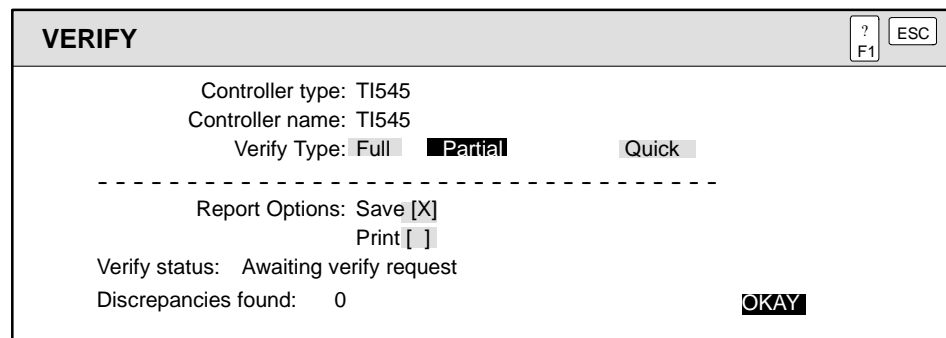

Figure 6-20 Verifying a Program
2. Press , or use the **OPTs** icon to select **Verify**. The following dialog window appears (Figure 6-20).